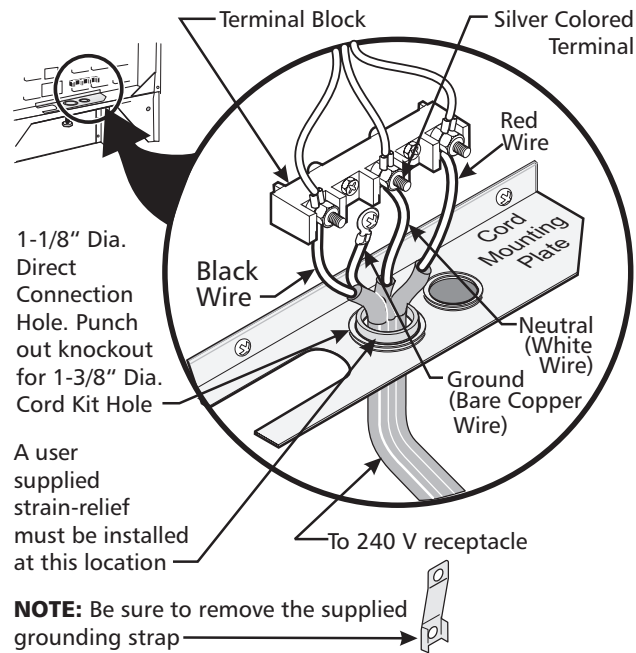

Figure 4
For mobile homes, new installations, recreational vehicles, or areas where local codes do not permit grounding through neutral, a 4 conductor power supply cord kit rated at 125/250 volts minimum, 40 amperes and marked for use with ranges should be used (see Figure 4).
4. Connect the ground wire (green) of the copper power supply cord to the frame of the appliance with the ground screw, using the hole in the frame where the ground strap was removed (see Figure 4).
6. Replace the 3 nuts on the terminal block (see figure 4).
If the appliance is connected directly to the circuit breaker, fuse box or junction box, use flexible, armored or non metallic sheathed copper cable (with grounding wire). Supply a U.L. listed strain-relief at each end of the cable. At the appliance end, the cable goes through the Direct Connection Hole (see figure 4) on the Cord Mounting Plate. Wire sizes (**copper wire only**) and connections must conform to the rating of the appliance.